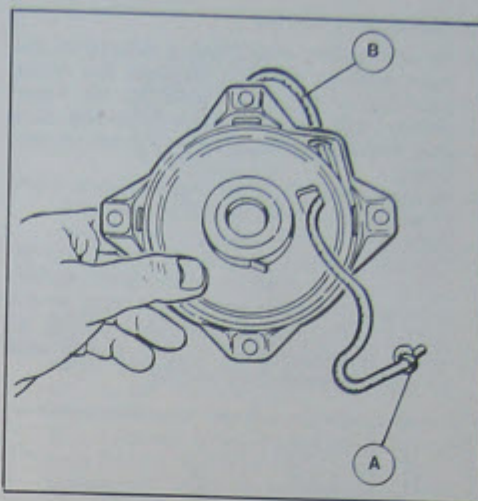

Fig. 16 Removing rope
- Release spring. With this starter it is more expedient to slide the rope off the pulley by loosening the knot (see Fig. 16). To do this, pull the rope completely and locking the pulley, slide the rope into the associated slot. Then slightly release pulley while exerting a light pressure with the thumb upon pulley.